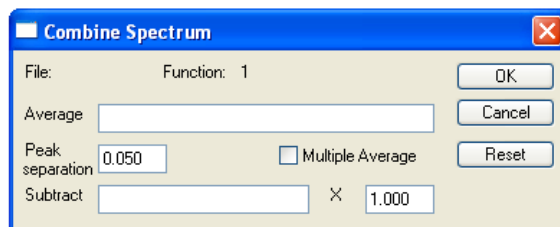

Figure 63 - Setting the peak separation to 0.05
- Set the peak separation to **0.05** and click **OK** (Figure 63).